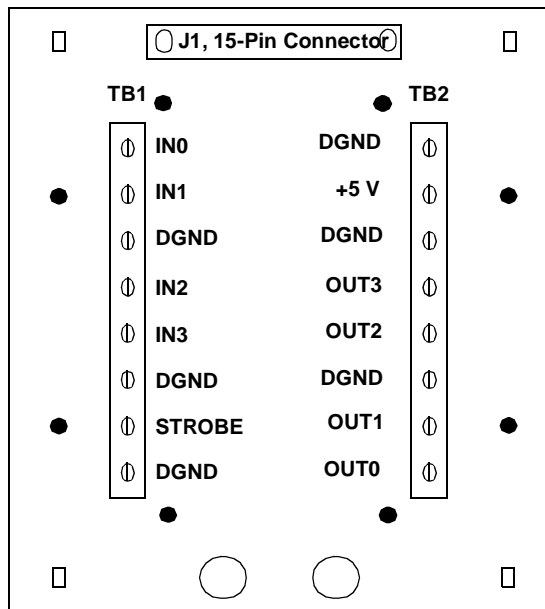

Figure 7: Layout of the STP15 Screw Terminal Panel
3. Connect digital input, digital output, and/or strobe output signals to the screw terminals of the STP15. Figure 7 shows the layout of the STP15 and the signal descriptions for each screw terminal.
Notes: In Figure 7, IN refers to digital input signals, OUT refers to digital output signals, STROBE refers to strobe output signal, DGND refers to digital ground signals, and +5 V refers to a +5 V (100 mA) output signal from the DT3162 board.
The dark filled circles in Figure 7 represent holes that you can use to mount the STP15 on a DIN rail. To mount the STP15 on a DIN rail, you need two DIN rail mount adapters (Phoenix Contact part number 1201578 or Data Translation part number 18083), and four thread form screws (Bossard part number BN2724M3x8 or Data Translation part number 18193).